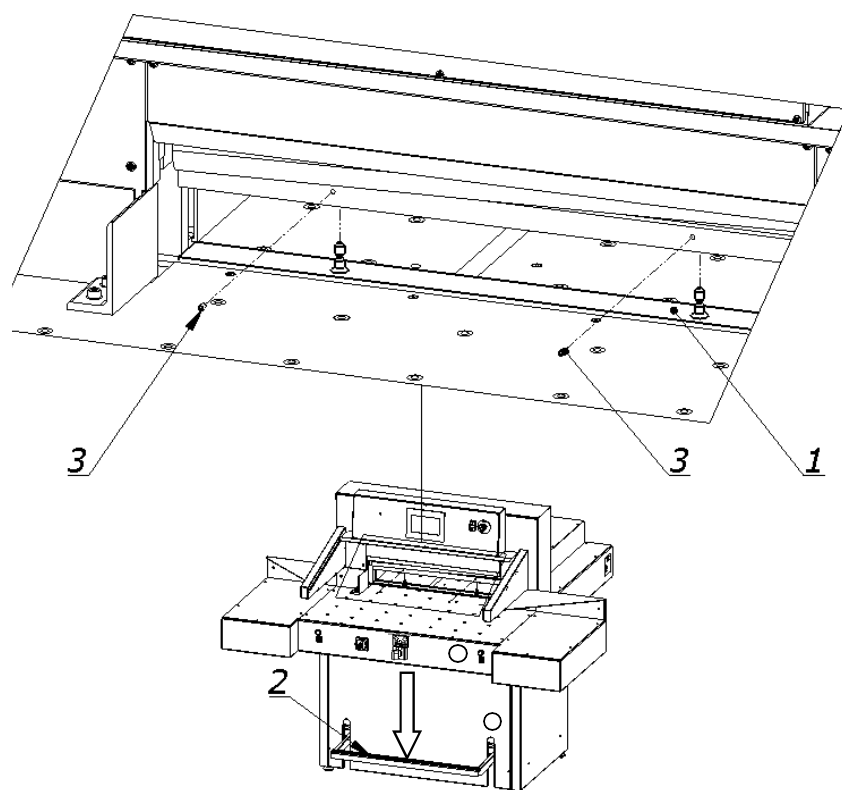

Figure 41. Operating elements used when mounting the False Clamp insert in the pressure bar.
8.3.1 Put the insert (1, Fig. 41) under the clamp/pressure beam so that the insert pins are under the holes in the pressure beam.
8.3.2 Pressing pedal (2, Fig. 41), bring the clamp/pressure beam down so that the insert pins hit the holes in the beam and the insert adheres the entire surface to the bottom surface of the beam.
8.3.3 Use a 3-mm hexagonal key with 3 mm to firmly attach the screws (3, Fig. 41) into the threaded holes in the clamp/pressure bar, causing the insert to be locked in the clamping beam.
8.3.4 Release the pressure on the pedal (2, Fig. 41) - the clamp/beam with the installed insert returns to the upper position